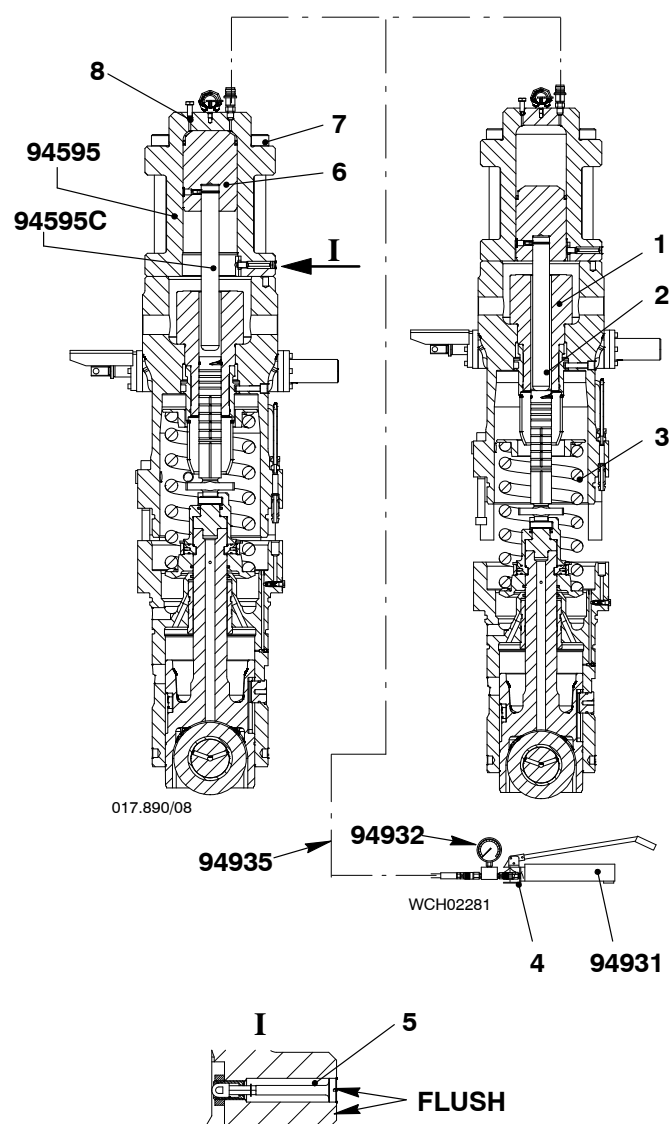

Fig. 5
- 2) Put the long push rod (94595C, Fig. 5) into the hydraulic ram (94595).
- 5) Close the relief valve (4).
- 6) Open the vent screw (8).
- 7) Operate the HP oil pump until oil that has no air flows from the vent screw (8).
- 8) Close the vent screw (8).
- The compression spring (3, Fig. 5) pushes the plunger (2) out of the cylinder (1), or
- The indicator (5) is flush with the housing. (This shows that the piston is at the end of its stroke.)
- 10) Remove the screws (7).
- 12) Remove the plunger (2).